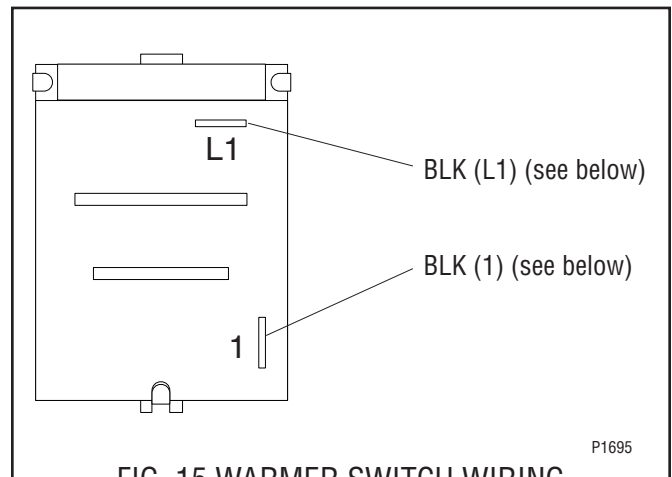

FIG. 15 WARMER SWITCH WIRING
- Refer to FIG. 15 when reconnecting the wires.